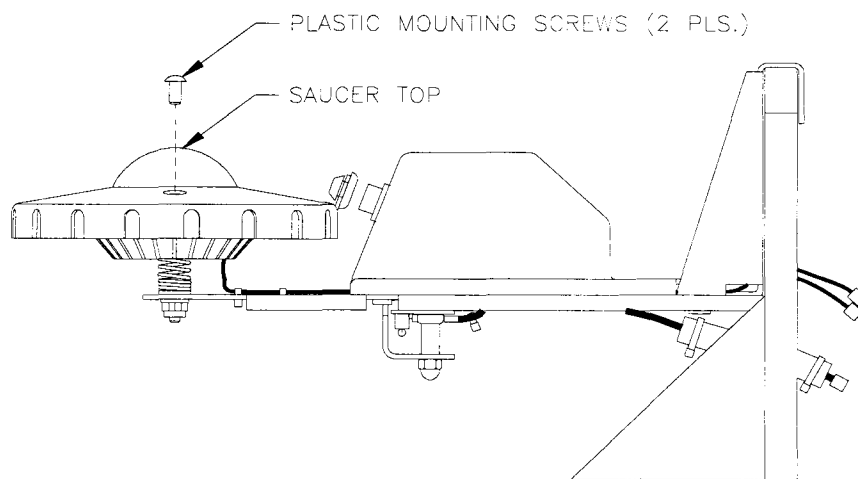

FIGURE 4
2. Remove the two plastic mounting screws (p/n 4008-01198-06) from the Saucer Top (p/n 03-9467.1). (See Fig.4)